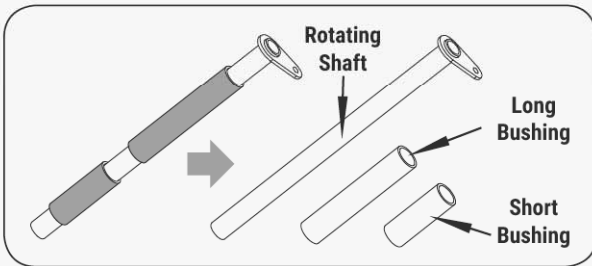

Figure 21a
1. Remove the long bushing and short bushing from the rotating shaft before assembly. (See **Figure 21a**.)